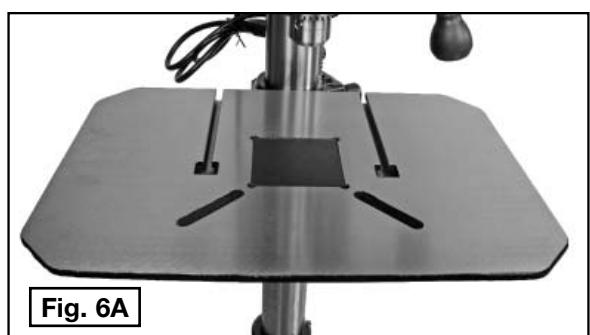

Fig. 6A
**NOTE:** Be sure to properly orient your drill press table to the column as shown in Fig. 6A.